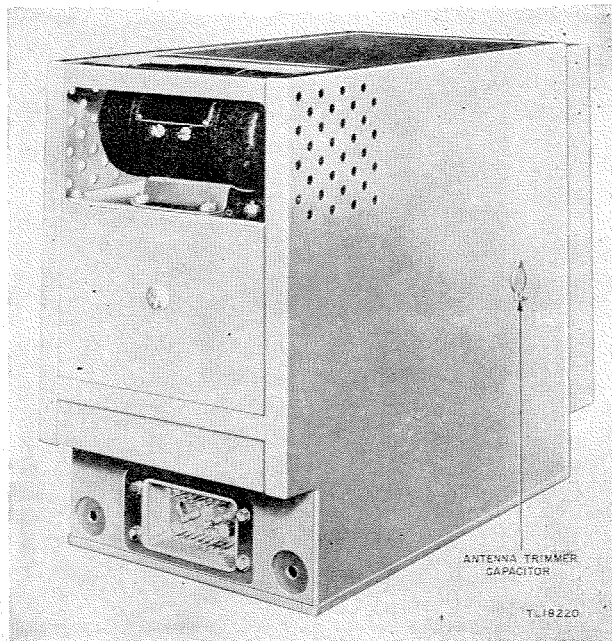

Figure 2. Radio Receiver BC-603-(\*)—oblique rear view.
*b.* CLEANING AND INSPECTING. (1) Remove the dust cover and see that the circuit label is firmly secured to the bottom.
(2) Clean the dust cover (inside and out), and the front panel with solvent dry-cleaning. Scrape off mud, tar, or any other adhering foreign matter. Touch up with paint or lacquer where necessary.
(3) Clean and inspect plug PG1. (See figs. 2 and 11.) Make sure there is a slight play in the plug mounting. Clean the pins carefully with dry-cleaning solvent (SD) using the small camel's-hair brush. Use a small file to remove corrosion. Avoid scraping the bakelite insulation. If the plug is damaged or the pins are bent or broken, replace the plug as directed in section VIII.